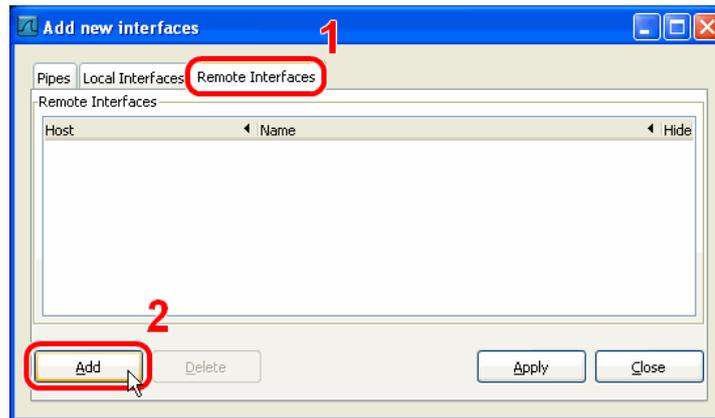

Figure 56: Wireshark Add New Interfaces Dialog.
3. Select the **Remote Interfaces** tab and click **Add** as shown in Figure 56.